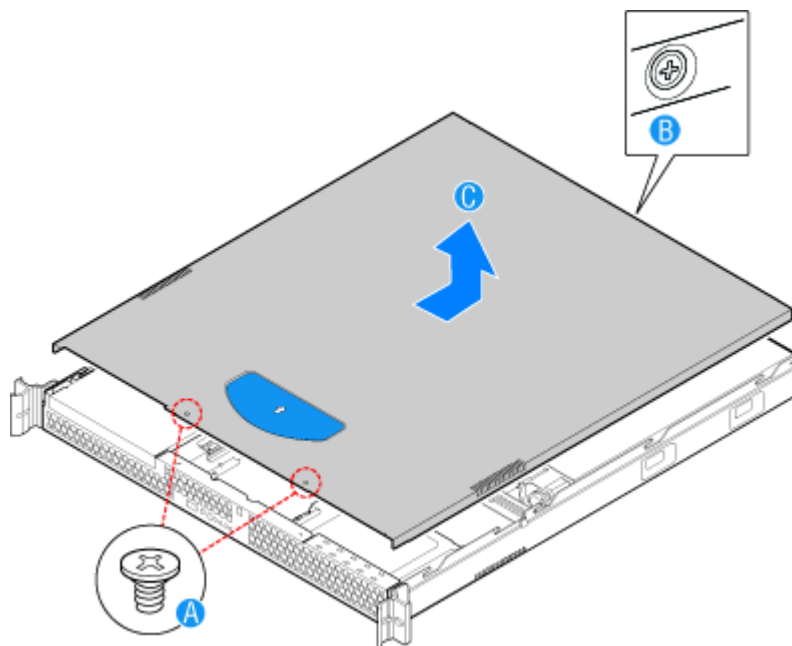

Figure 102: Removing the Server Cover
3. Remove the two screws at the front of the chassis. See letter “A” in Figure 102.
4. Loosen the screw at the rear of the chassis. See letter “B” in Figure 102.